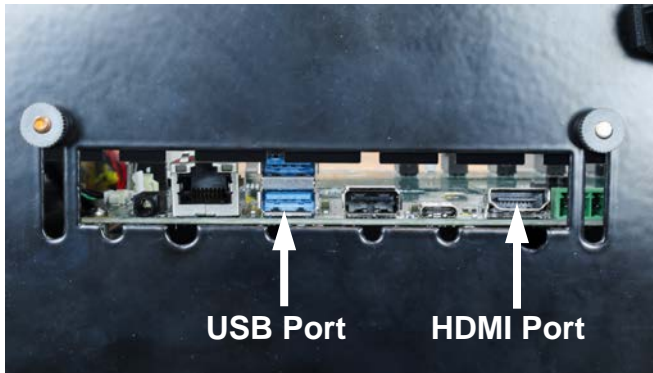
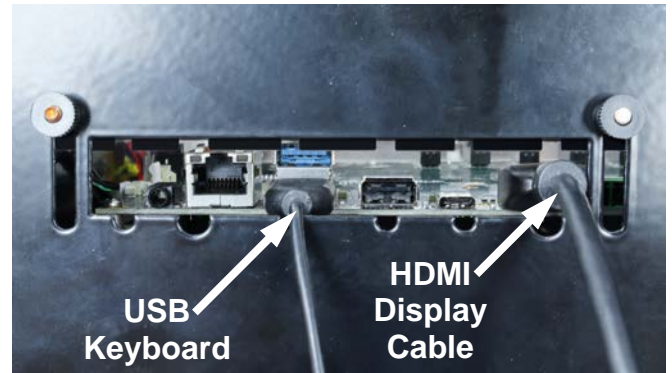

Figure No. 5
Figure No. 6
2. Referring to Figure No. 5, locate the HDMI port on the mainboard (*it will be on the right of the opening in the rear of the enclosure*) and insert the HDMI cable through the opening into the enclosure, and then push the cable connector into the port on the mainboard. Ensure the cable connector is completely in the port and then position the cable in the notch on the rear of the enclosure. See Figure No. 6.
3. Next, again, referring to Figure No. 5, locate the two USB ports next to the network cable port (*they will be approximately in the center of the opening*) and insert the USB keyboard cable into either one of the ports on the mainboard. Ensure the keyboard cable connector is completely in the port and then position the keyboard cable in the middle notch on the rear of the enclosure. See Figure No. 6.